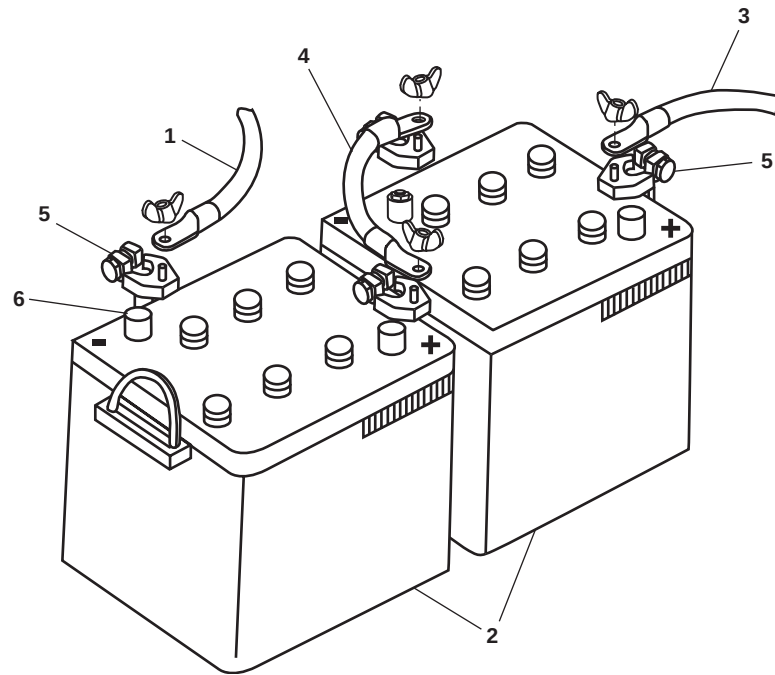

Figure 2. Battery Bank
5. Label and remove the negative battery cable (figure 2, item 1) from the battery bank (figure 2, item 2).
6. Label and remove the positive battery cable (figure 2, item 3) from the battery bank (figure 2, item 2).
7. Remove the battery post connectors (figure 2, item 5) from the battery bank (figure 2, item 2), taking care not to apply any prying or twisting force to the battery posts (figure 2, item 6). If the battery post connectors are difficult to remove from the battery posts, spread the battery post connectors to loosen them before attempting to remove them from the battery bank.
8. Label remove the connector battery cable (figure 2, item 4) from the battery bank (figure 2, item 2).
1. Install the battery post connectors (figure 2, item 5) on the battery posts (figure 2, item 6).
2. Install the connector battery cable (figure 2, item 1) on the battery bank (figure 2, item 2) using the labels from step 6 of Removal as a guide. Remove the labels.
3. Install the positive battery cable (figure 2, item 3) to the battery bank (figure 2, item 2) using the labels from step 6 of Removal as a guide. Remove the labels.
4. Install the negative battery cable (figure 2, item 1) to the battery bank (figure 2, item 2) using the labels from step 6 of Removal as a guide. Remove the labels.